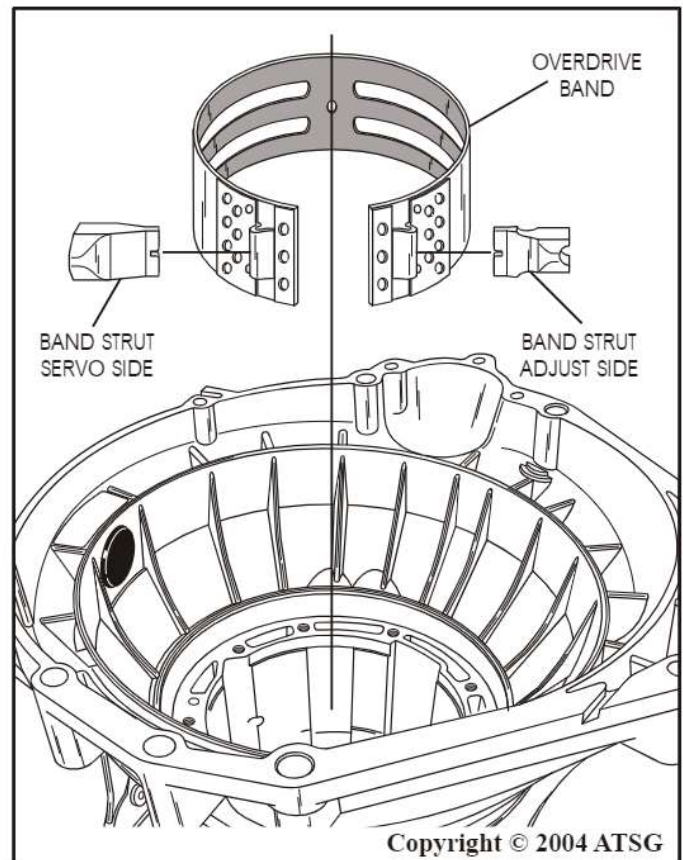

Figure 38
32. Remove the overdrive band assembly and both band struts, as shown in Figure 38.
- Note:** Notice the difference in the band struts and which side they are located, as shown in Figure 38.